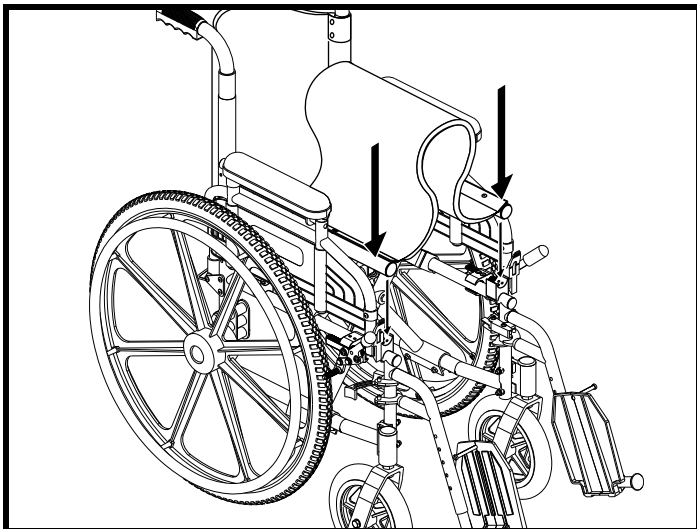

Figure 8. Unfolding the Stylus
2. Place the palm of your hands on each seat base rail. See **figure 8**.